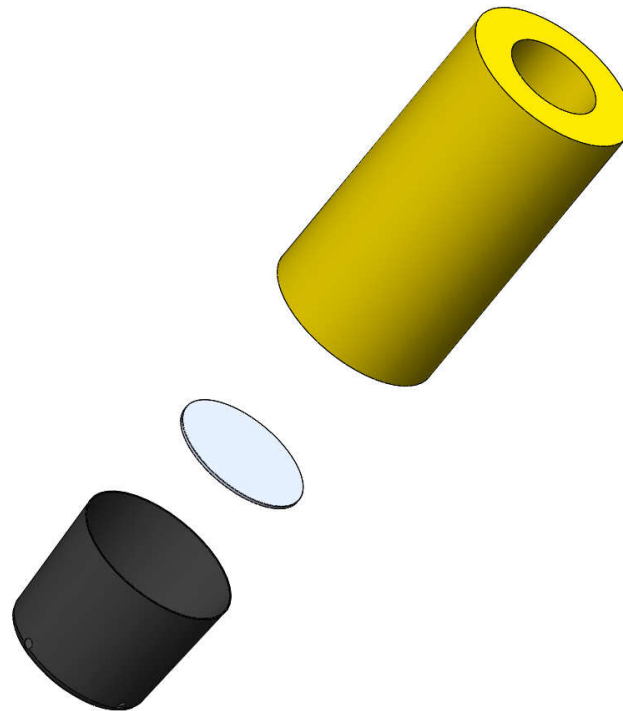

FIGURE 1-4
5. Assemble the baffled pickup assembly and insert it into the tank. **FIGURE 1-4**